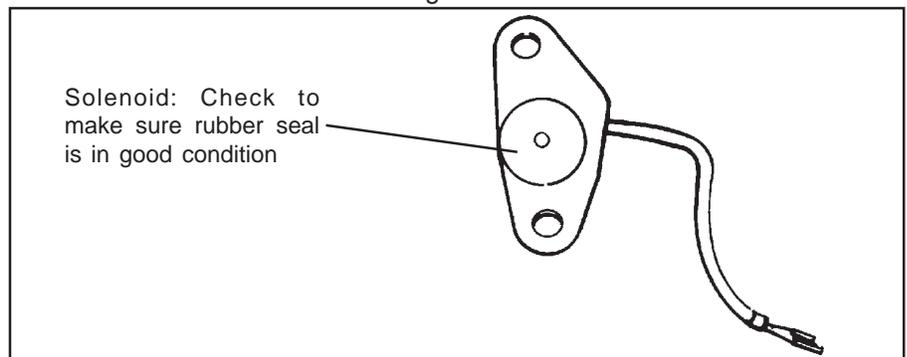

Figure 11
STEP 11. Carefully examine Detent Solenoid. Make sure the rubber seal is in good condition and has no nicks or cuts (**See Fig. 11**). If the seal is damaged, you will have to replace the solenoid. If the seal leaks the transmission will be in passing gear all the time. Install the solenoid with two (2) 1/